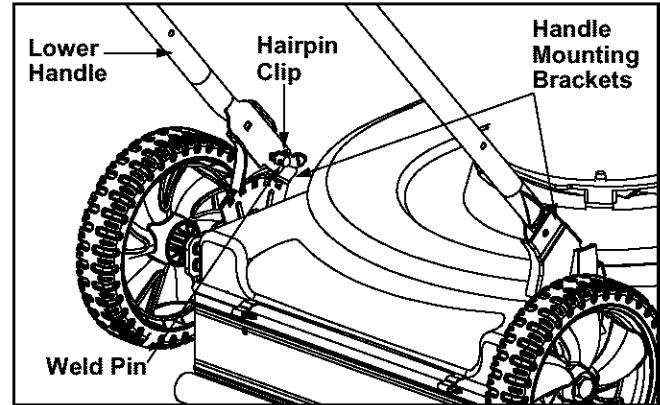

Figure 2
- Remove the hairpin clips from the outer hole in the weld pins on the handle mounting brackets. See Figure 2.
- Insert each hairpin clip into the inner hole on the weld pins. See Figure 2.